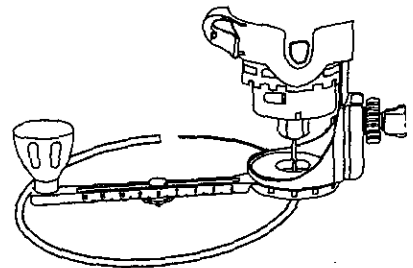

Fig. 14
6. When the motor is up to full speed, slowly tip the tool and circle cutting guide assembly to an upright position, letting the bit cut into the workpiece (see Fig 14). Be careful to keep the pivot point located at the centre of the circle to be cut. Once the tool has reached the upright position and the bit has cut through the workpiece, slowly move the tool in a clockwise direction using slow steady pressure to make the cut. Continue to cut the circle, keeping the tool upright and rotating around the circle cutting guide pivot point.